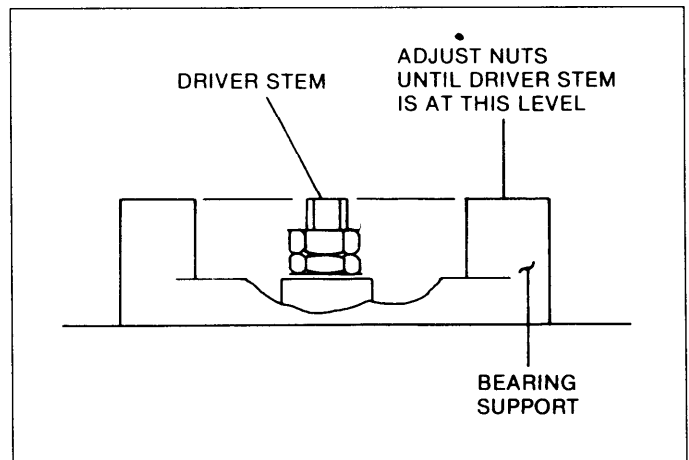

Figure 8. Interrupter reassembly.
8. Reassemble the spacer sleeve and one nut to the top of the interrupter driver stem. With the contactor in the open position adjust the nut on the driver stem until the top of the driver stem is level with the top of the bearing support. See Figure 8. Assemble the second nut to the driver stem and lock it against the first nut.